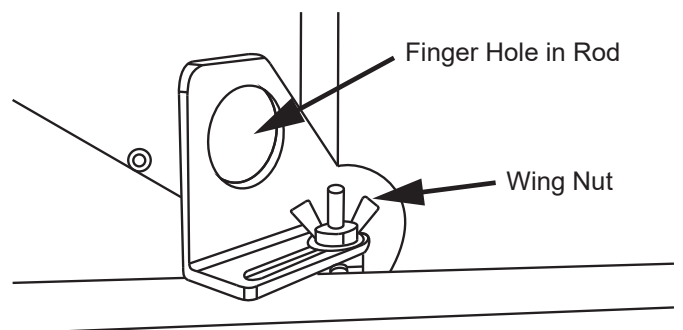

Figure 12.3
1. Loosen the wing nut (**Figure 12.3**).